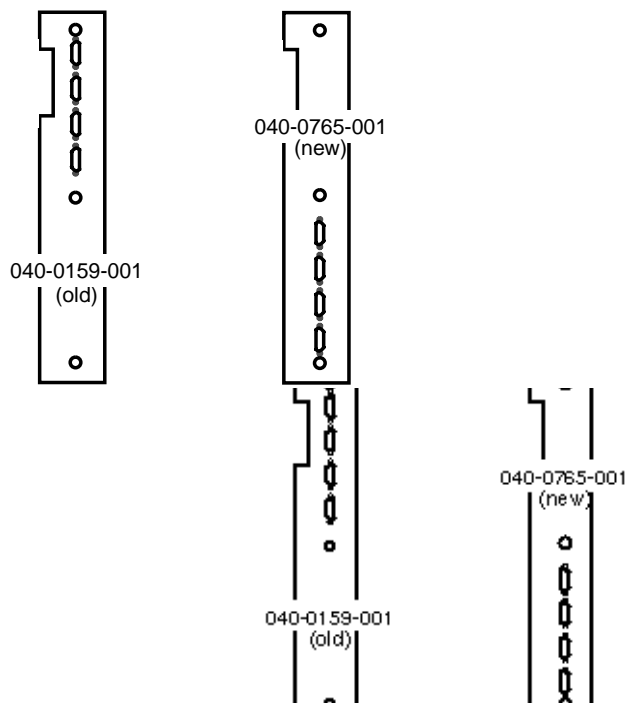

Figure 2-1 Sheet Metal Panels for Plate Assembly
6. In Crimson or POWER Series deskside systems with dual processor boards (four processors), the existing plate assembly for the second processor board is situated on the blank plate or sheet metal panel (p/n 040-0159-001) so that there is no room to attach the PB3 paddleboard to the MCO board. The replacement panel (p/n 040-0765-001) included in the MCO shipment situates the plate assembly on its lower half, allowing room for the PB3. Figure 2-1 depicts these panels.